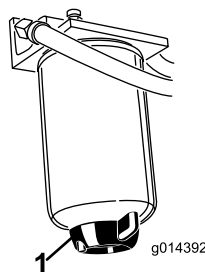

Figure 34
Drain the water or other contaminants from the water separator (Figure 34) daily. Replace the filter canister after every 400 hours of operation.
2. Loosen the drain plug on the bottom of the filter canister (Figure 34).